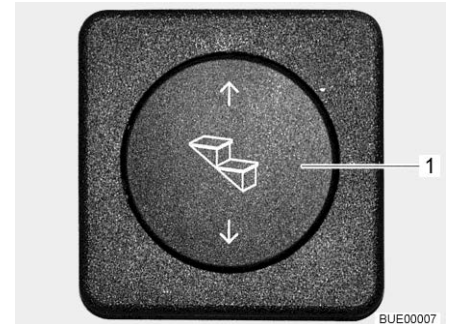

Fig. 10 Operating button for entrance step
**Extending:** ■ Press the rocker button (Fig. 10,1) down and hold it pressed (at least 3 seconds) until the entrance step has extended completely.
**Retracting:** ■ Press the rocker button (Fig. 10,1) up until the entrance step has retracted completely.